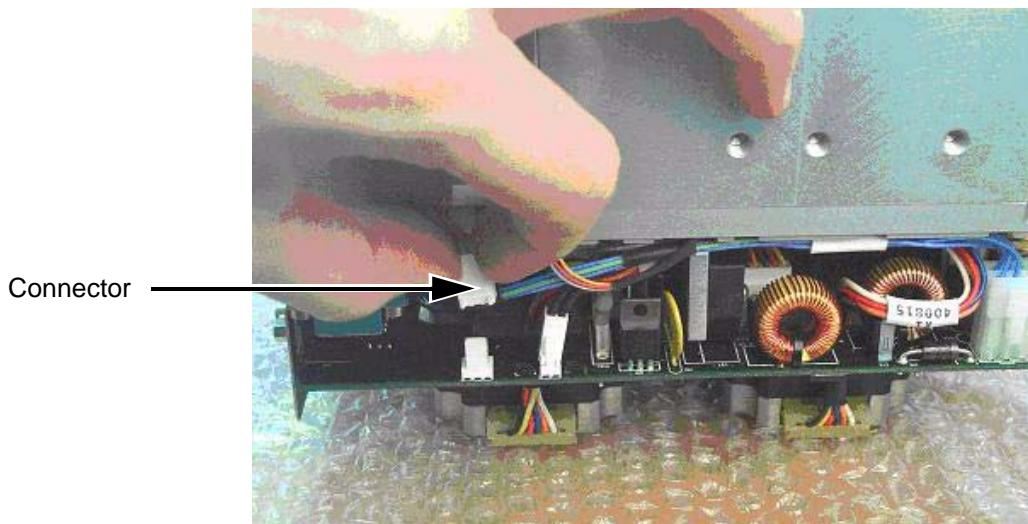

Figure 5-54: Emitter Connector
- 3 Remove the emitter connector from the PCB as shown in Figure 5-54.